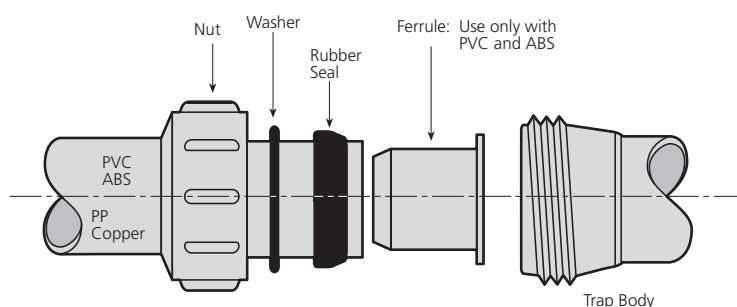

Fig.44 Trap parts
#### Trap outlet (Fig.44)
**Step 4** – Dismantle trap outlet as shown (Fig.44)